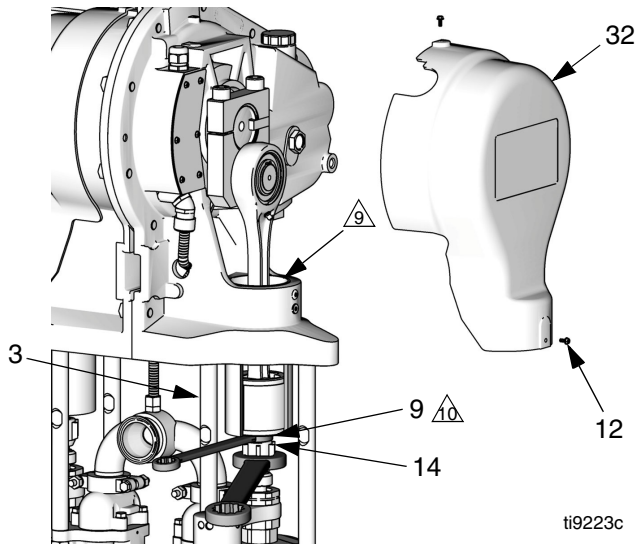

FIG. 14. Remove Coupling Nut
1. Jog the motor to bring the pump on the side being repaired to the bottom of its stroke. This provides access to the coupling nut (14).
4. Remove two screws (12) and the cover. FIG. 14 shows the cover (32) on the side opposite from the motor; the motor side cover is (21).